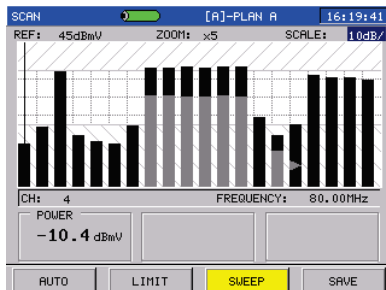

Figure 3-5-4
**PAUSE(F3):** If you want to freeze scan, press PAUSE soft key, then **F2** becomes SWEEP. Here, this graph will be retained till you press SWEEP soft key even if this meter doesn't connect with the cable system. Refer to Figure 3-5-4.